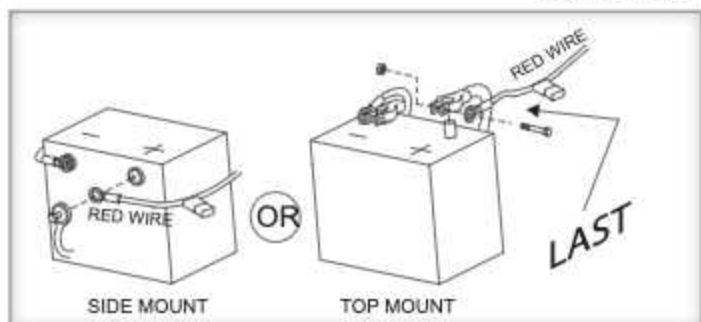

Figure 18-3
8. LAST...attach red wire to the positive terminal on the battery. [Figure 18-3]